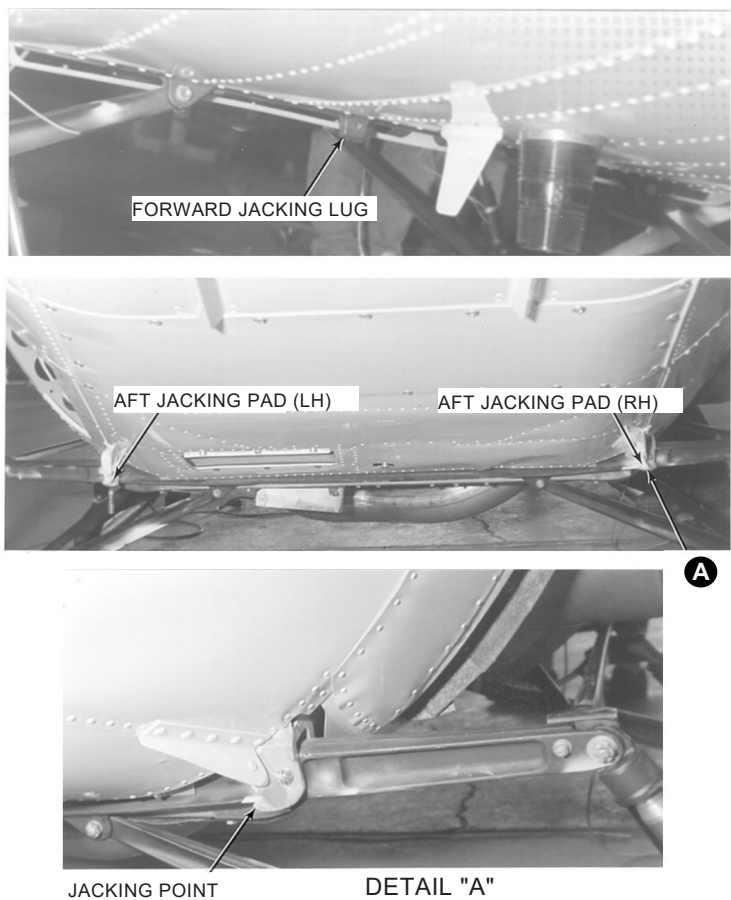

Figure 7-3. Jacking and Leveling
- Provisions for jacking helicopter (Fig. 7-3) are provided by one forward jacking lug and two aft jacking pads.
- • • Place spirit (bubble) level on top of main rotor hub (Fig. 7-3) so that bubble glass is parallel to helicopter centerline.